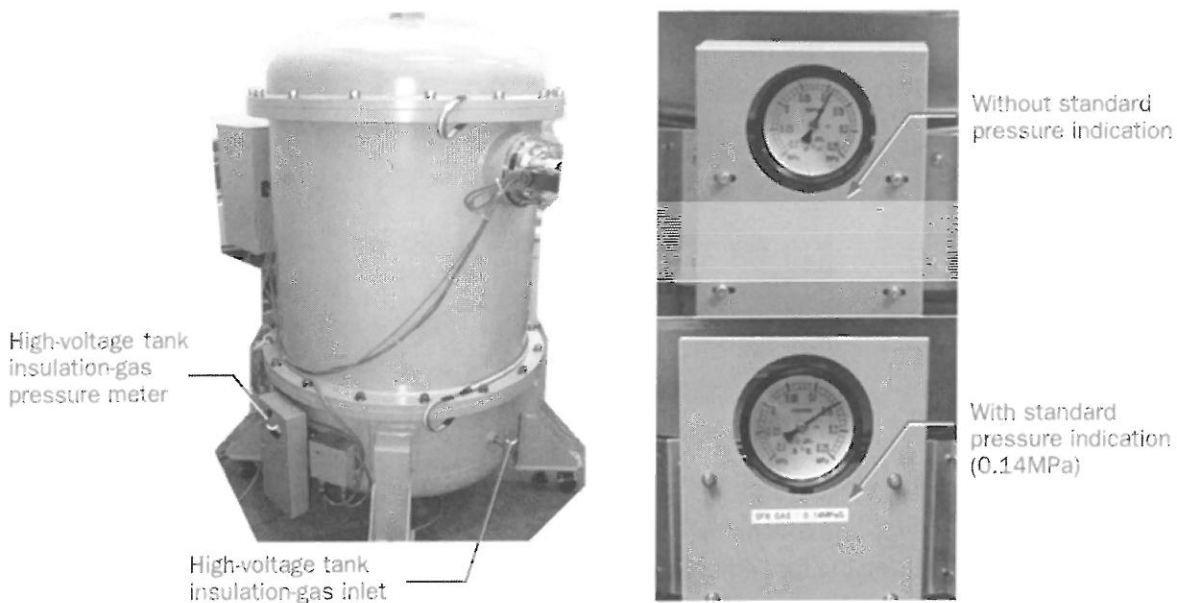
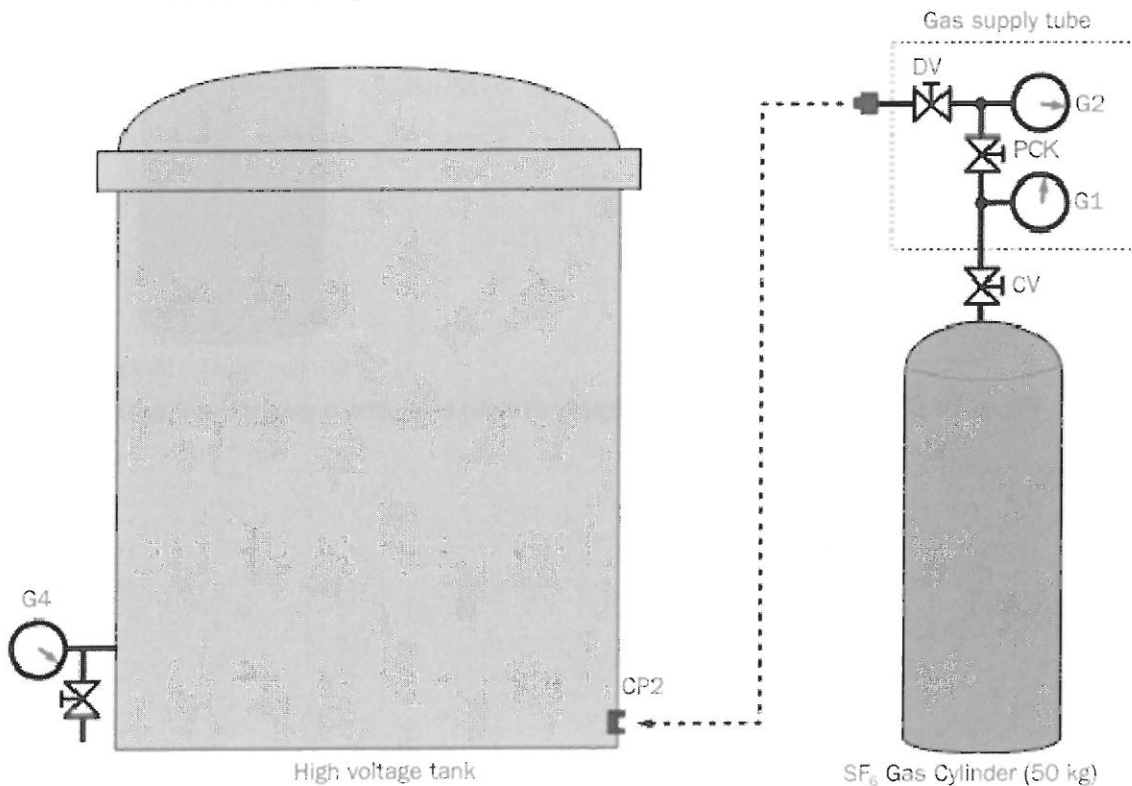

Fig. 6.6 Gas pressure gauge/gas inlet of the high voltage tank
Fig. 6.11 Diagram of the SF₆ gas supply system to high voltage tank.
If the reading of the gas pressure gauge (Fig. 6.6) at the bottom of the HT tank decreases to 0.1 MPa or less, refill the HT tank with SF₆ gas following the procedure below (Fig. 6.11).
2. Connect the insulation gas introduction port (Fig. 6.11) to the SF₆ gas cylinder supply valve using a hose (with a quick coupling).